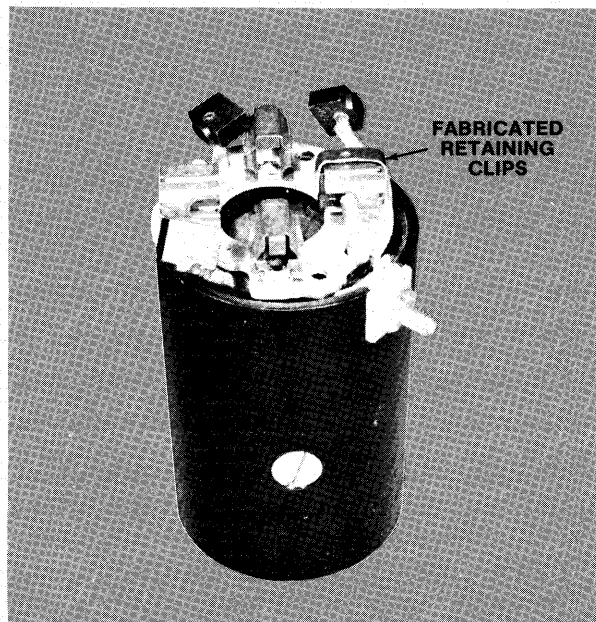

Figure 4—Retaining Brush in Holder
D. Install spring in brush holder and install brush on spring. Compress brush with spring in holder. Secure brush in holder with fabricated brush retaining clip as shown in figure 4. Follow above procedure for remaining brushes.